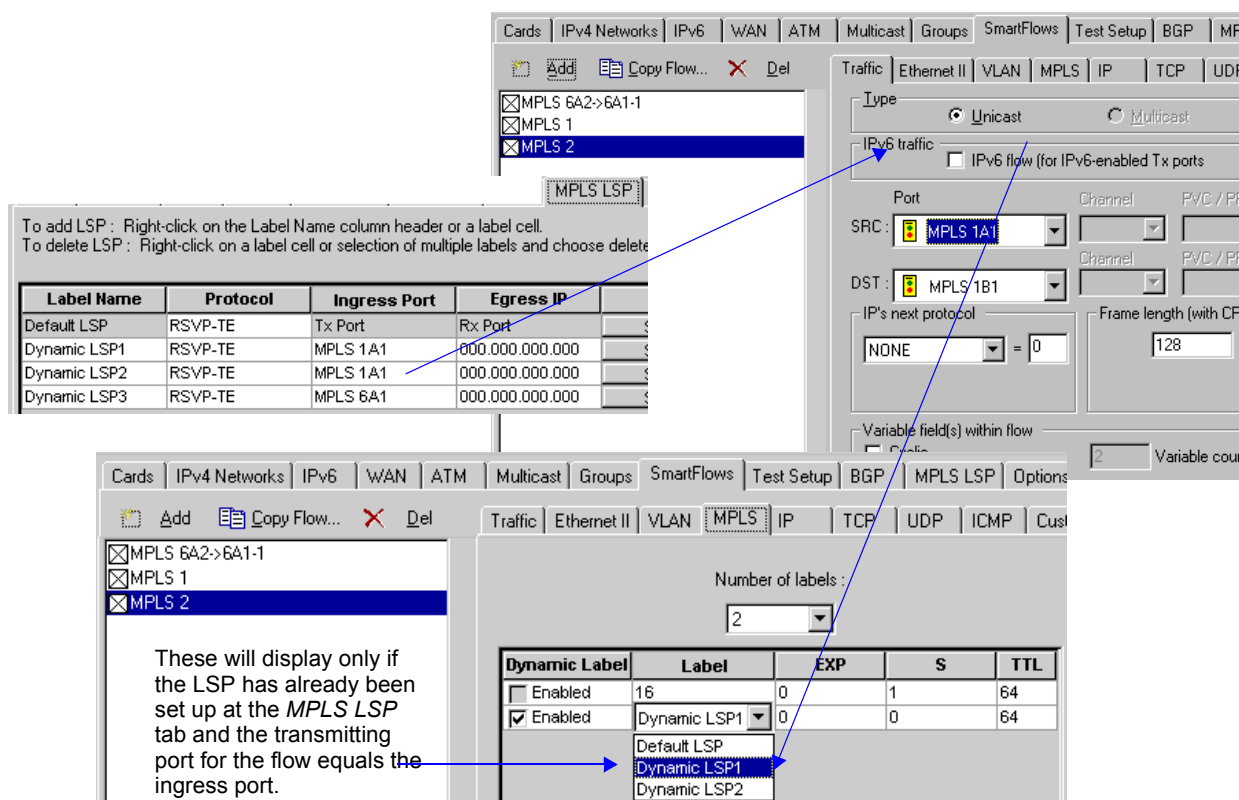

Figure 17-10. How to Aggregate an LSP at the SmartFlows>MPLS Tab
- If an LSP does not appear in the *Label* list that was set up, make sure the ingress port on the *SmartFlows>MPLS* tab matches the transmitting port for the flow that you are trying to assign to an LSP. *Figure 17-10 on page 430* shows this relationship.
Figure 17-10 illustrates the relationship between the value in the *Ingress Port* field on the *MPLS LSP* tab, the transmitting port for the flow, and the LSPs that display for dynamic labels.